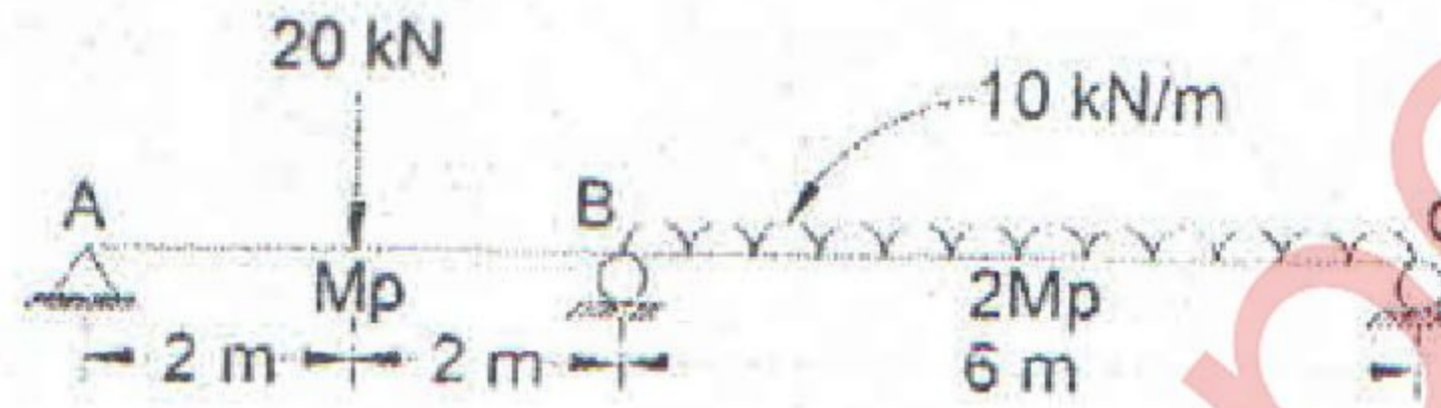

Figure 7
- (b) Calculate the plastic moment capacity required for the continuous beam with working load as shown in figure 7. [8]